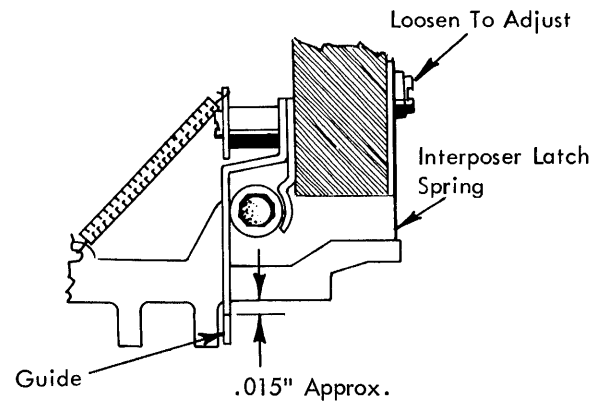

FIGURE 4. Interposer Latch Spring Adjustment
4. Interposer Latch Springs (Preliminary) With the H interposer latched down, adjust the left hand end of the right hand section of latch springs so that there will be approximately $.015"$ remaining travel of the interposer before it bottoms (Fig. 4). Check this clearance by pulling the interposer down with a spring hook.